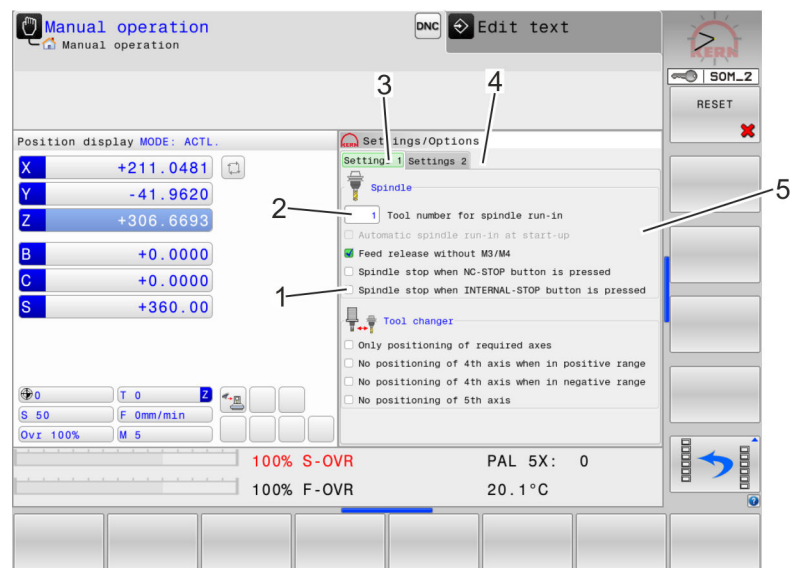

Fig. 75: Settings/Options
3. Enable or disable the desired options (Fig. 75/1) per mouse click.
4. Select the input fields (Fig. 75/2) per mouse click.
7. Switch to the “Settings 2” tab (Fig. 75/4).